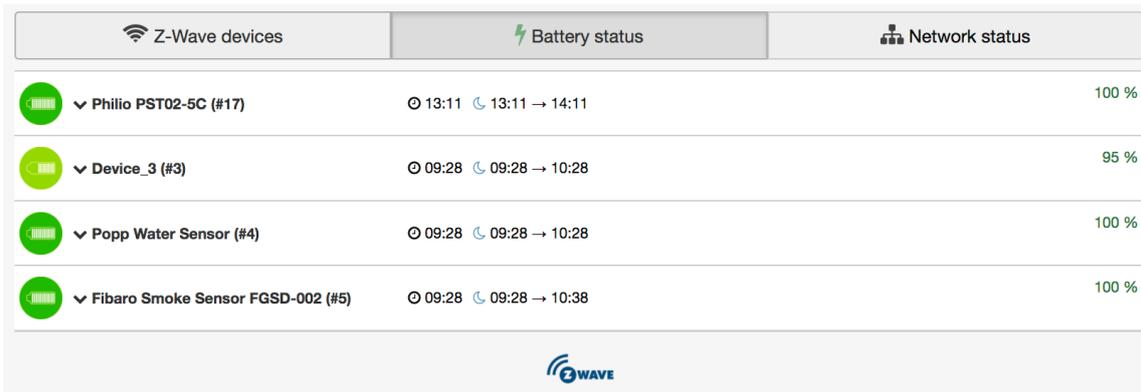

Figure 4.26: Z-Wave device battery overview
- Figure 4.26 shows the battery status overview. The list can be ordered by the battery charging level.